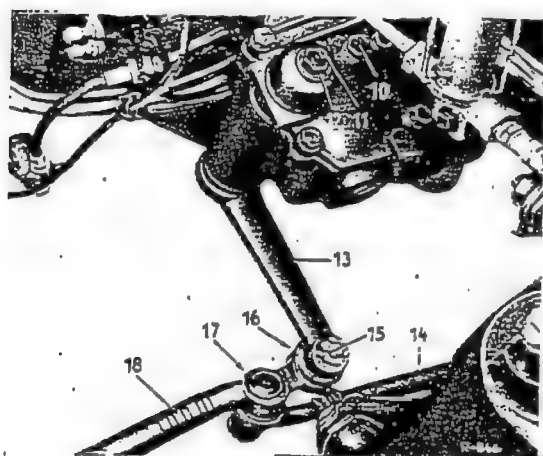

Fig. 46-12/1
1. Detach the center tie-rod (18) from the steering gear arm (13) (Fig. 46-12/1 and Job No. 46-9).